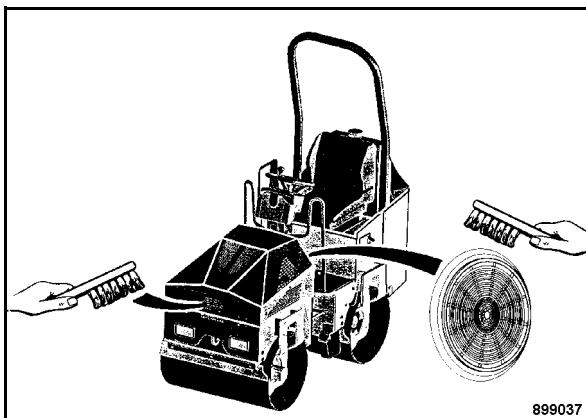

Fig. 66
- Clean the cooling air intake openings (Fig. 66).